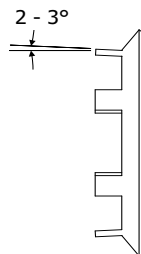

Figure 16: Coil Gasket Preparation
- 2)** Using Needle-Nose Pliers, form the 6 tabs on each Coil Gasket by bending each tab outward 2 to 3 degrees as shown in Figure 16. This will secure the Gasket into the Spud's inside diameter.